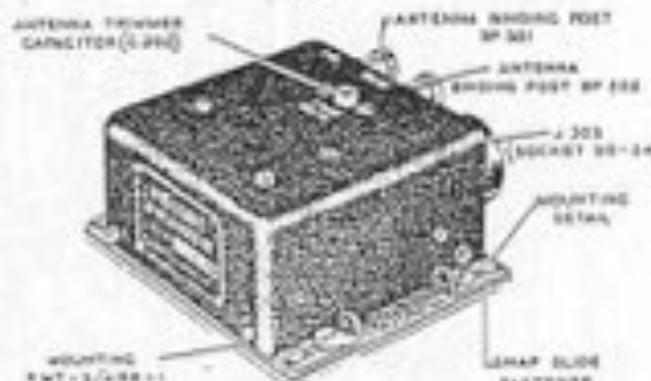

Figure 4—Relay \*RE-1/ARR-1 (or \*RE-1A/ARR-1), Front View
c. RELAY \*RE-1/ARR-1 (OR RELAY \*RE-1A/ARR-1).—The relay is constructed of black crackle-finished metal. Figure 4 shows the front of the
d. MOUNTING \*MT-1/ARR-1.—This mounting, shown in figure 1, consists of an aluminum plate with four mounting details and four countersunk holes. In figures 4 and 5 it is shown attached to the rotary relay.